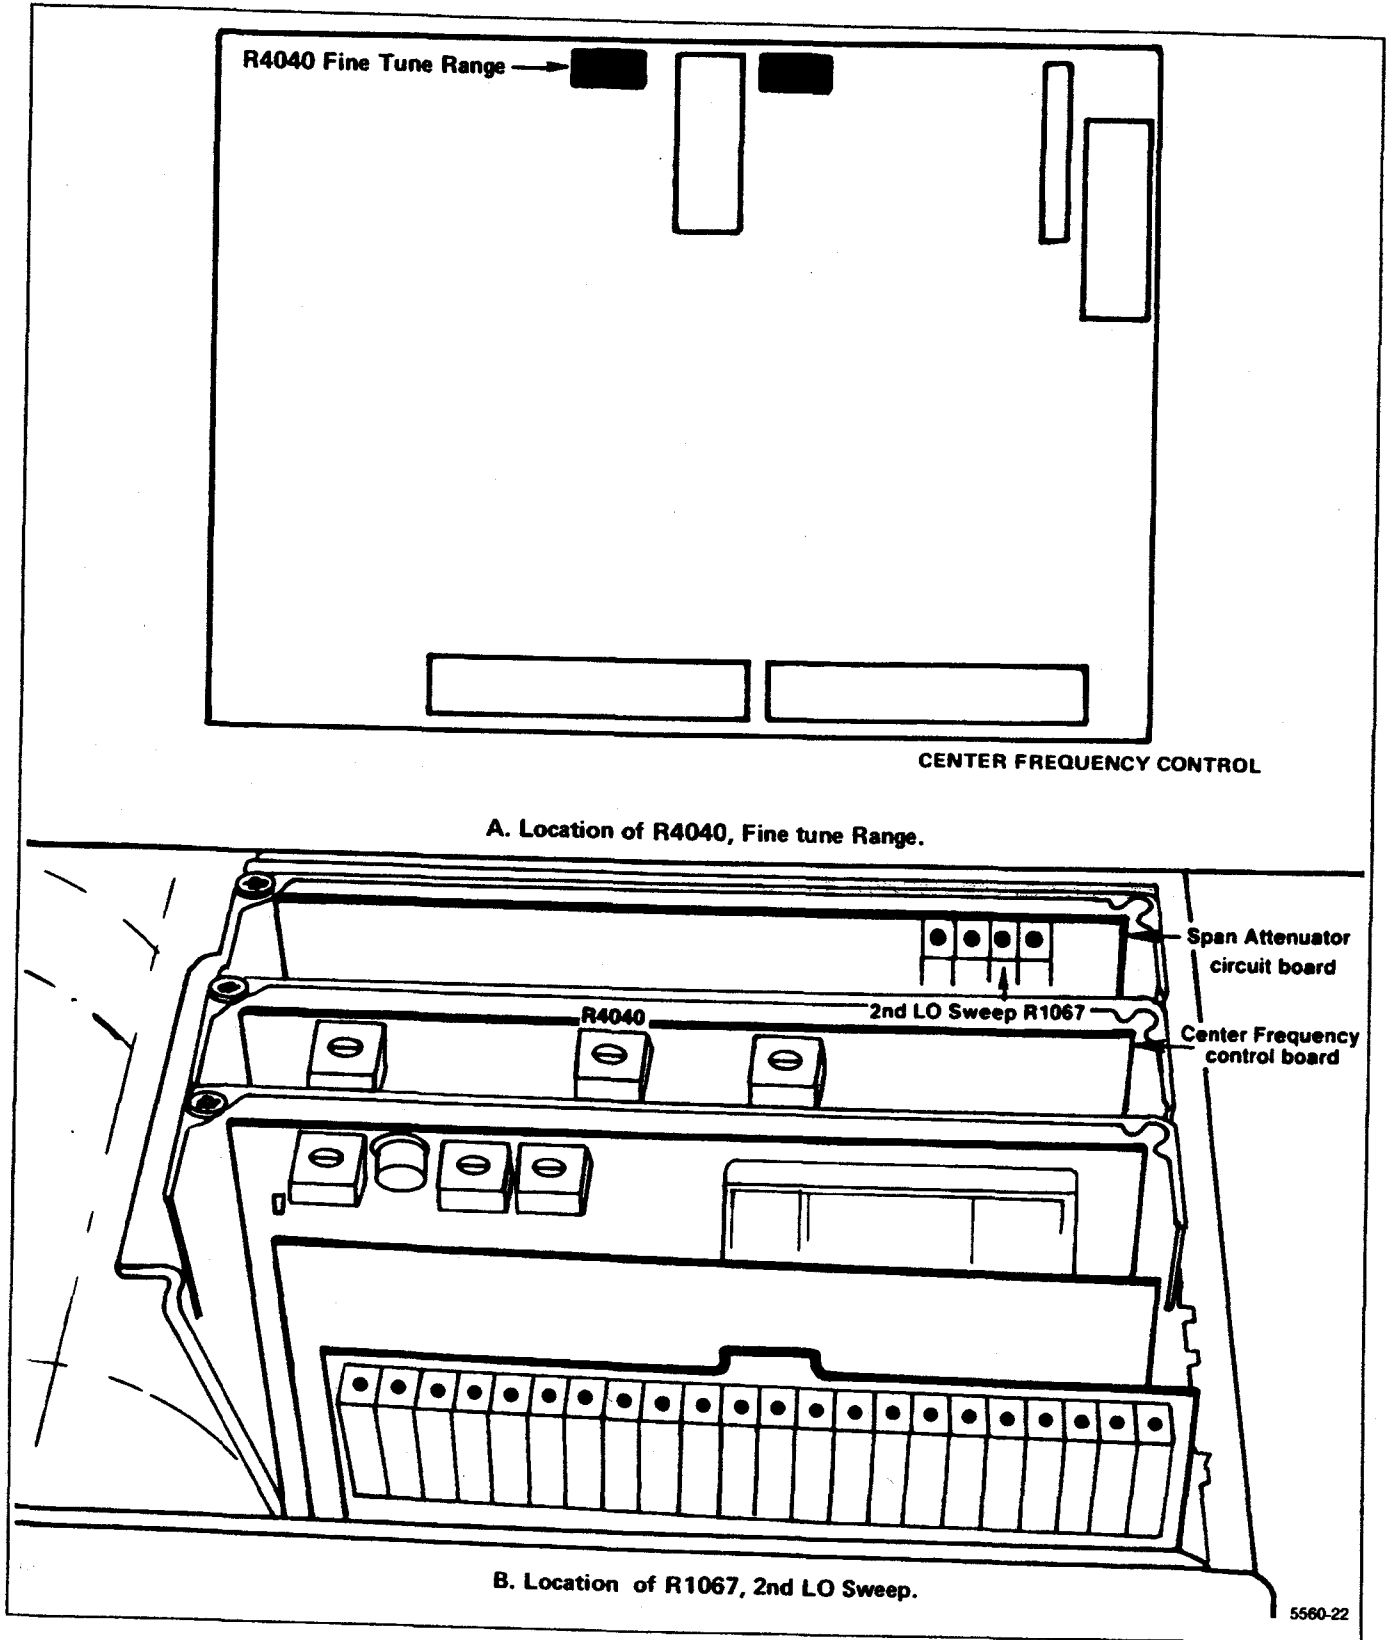

Figure 6-24. Tune and Sweep Range adjustments.
a. Center the Fine Tune adjustment R4040, on the Center Frequency Control board and the 2nd LO Sweep adjustment R1067, on the Span Attenuator board (Figure 6-24).
c. Adjust the 2nd LO Sweep R1067, on the Span Attenuator board (Figure 6-24), so the comb lines on opposite sides of the screen, are exactly 8 major divisions apart.